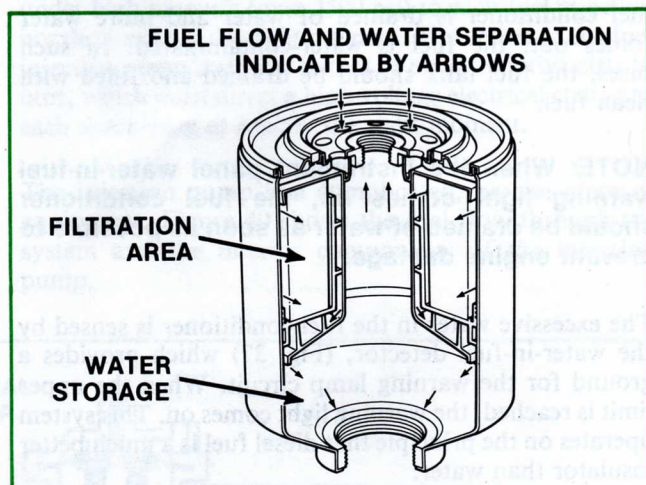

Figure 36. Replaceable Filter Element Cutaway (9365A)
1. Filters the fuel. The replaceable filter element (Fig. 36) of the fuel conditioner efficiently filters extremely small particles from the fuel. The reason for having such a fine filtering system is that clearances within the fuel injection pump and injector nozzles can be as close as sixty-millionths of an inch, and any abrasive particle that gets past the filter can cause severe damage to these components. The capacity of this filter is 600 cc, and its replacement interval is 30,000 miles.